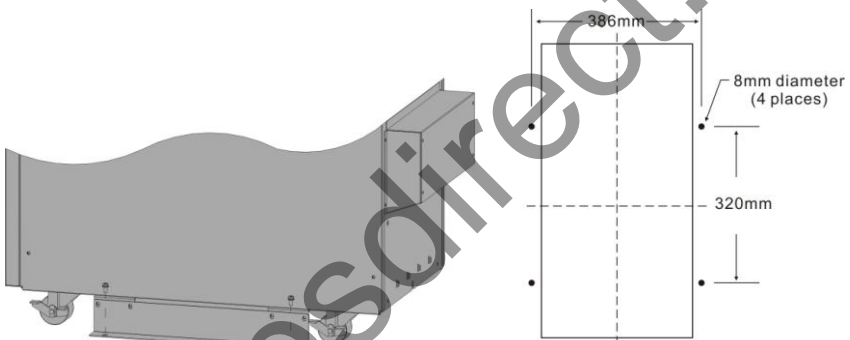

Fig. 4-5 Additional stability
- 4) Once the installation is completed, the side mounting brackets (used in shipping) should be fixed back to ensure the stability of the UPS enclosure. If impossible, additional stability can be added by anchoring the mounting brackets to the floor with M8 bolts. See Fig. 4-5.